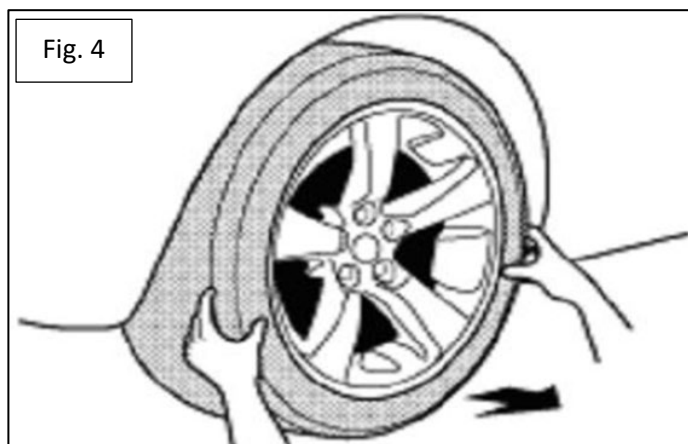

Fig. 4
6. Remove OE wheel and tire assemblies from the vehicle. Figure 4.